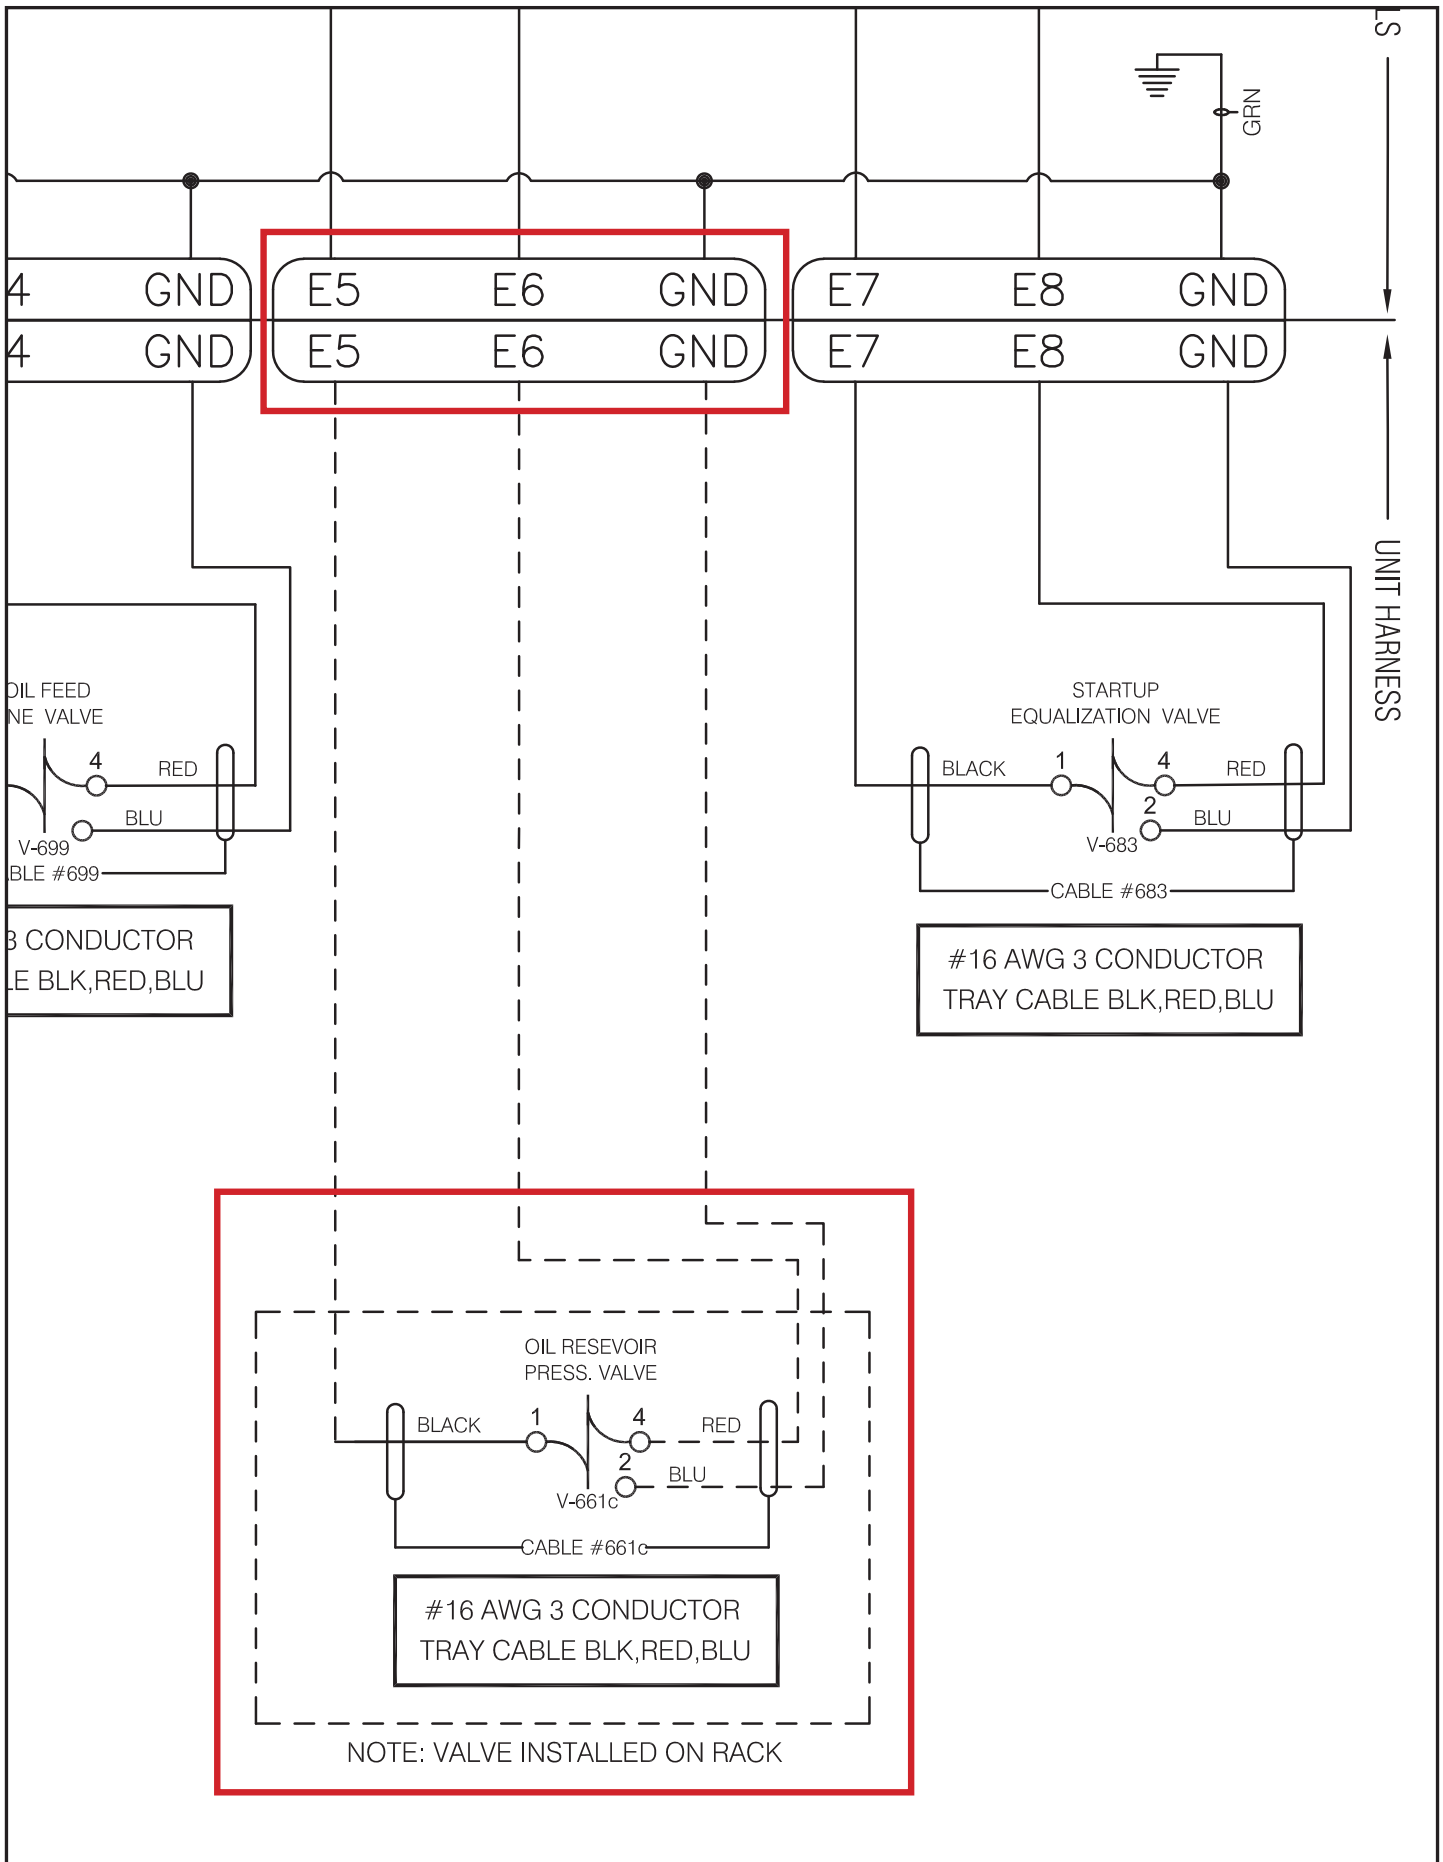

Figure F2 – ChargeSecure wiring diagram excerpt
Step 4: Oil Pressurization Solenoid (V-661c) is to be wired to ChargeSecure control panel per wiring diagram in **Figure F2 (Page 13)**.